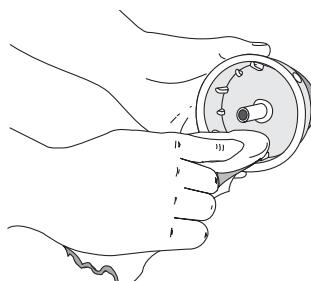

Fig. 25
4. Use a clean cloth to clean the inner reel, spring, shaft and inner surface of the outer spool (Fig. 25).